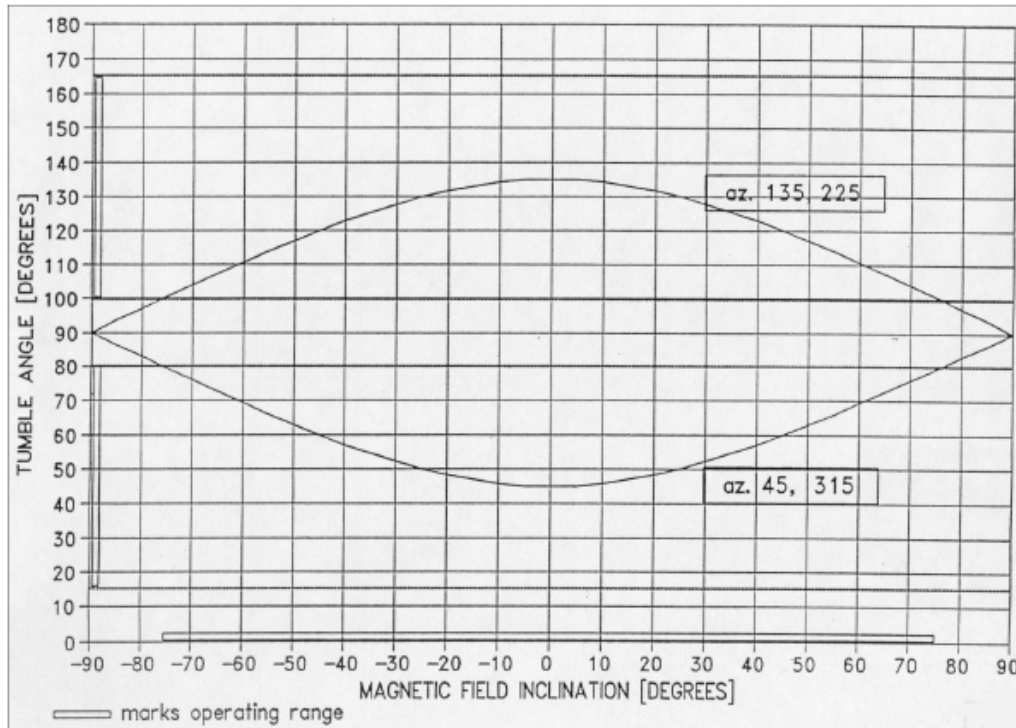

Figure 16 - Plot of tumble angle versus magnetic field inclination. Sensor inclination is 0°. Sensor azimuths are 45, 135, 225 and 315 degrees.
3. The operation around the magnetic equator, extending well into the regions with the magnetic field inclinations up to 45°, could be covered with the sensor inclination 0° and azimuths 45, 135, 225, 315 degrees (see Figure 16).